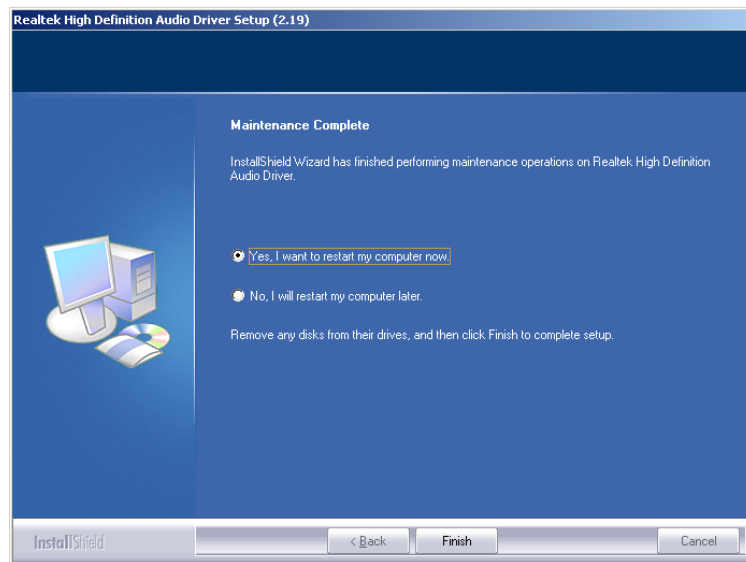

Figure 7-32: Restart the Computer
Step 13: After the driver installation process is complete, a confirmation screen appears (Figure 7-32).